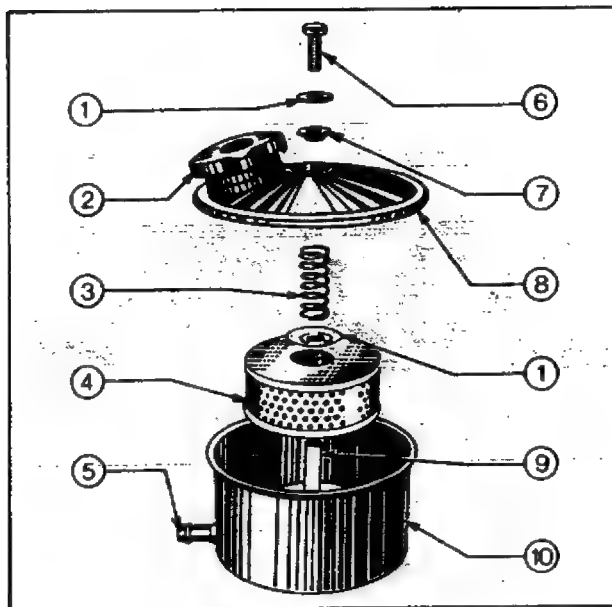

Fig. 19
The oil reservoir is mounted directly on top of the pump with no external connections between the reservoir and the pump. A spring loaded filter assembly is fitted, which will by-pass the oil, should the element become clogged (see Fig. 19).
19. Fit the filter element, the retaining washer and the element spring. Check the condition of the cover gasket and refit the cover assembly. Fit the retaining bolt and the sealing washers and tighten the bolt (see Fig. 19).